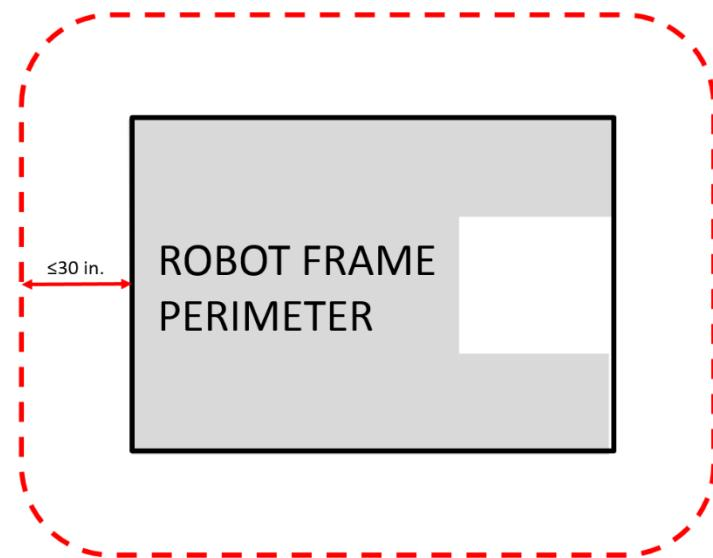

Figure 10-1 FRAME PERIMETER extension
- R4. ROBOTS may not extend more than 30 in. (~76 cm) beyond their FRAME PERIMETER (see Figure 10-1)